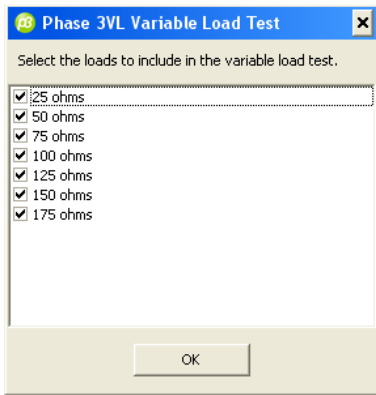

Fig. 2
- The Test Load selection box (Fig. 2) will appear. Select the loads under which the Defibrillator is to be tested (all checked is the default), and press OK.